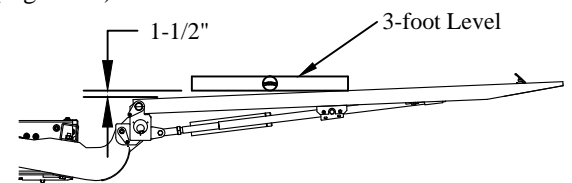

Figure 19: Platform position.
6. **Adjust** the passenger side support arm so that the platform is 1-1/2" from level over a 3-foot length (Figure 19). Adjustment similar to folding cylinder.